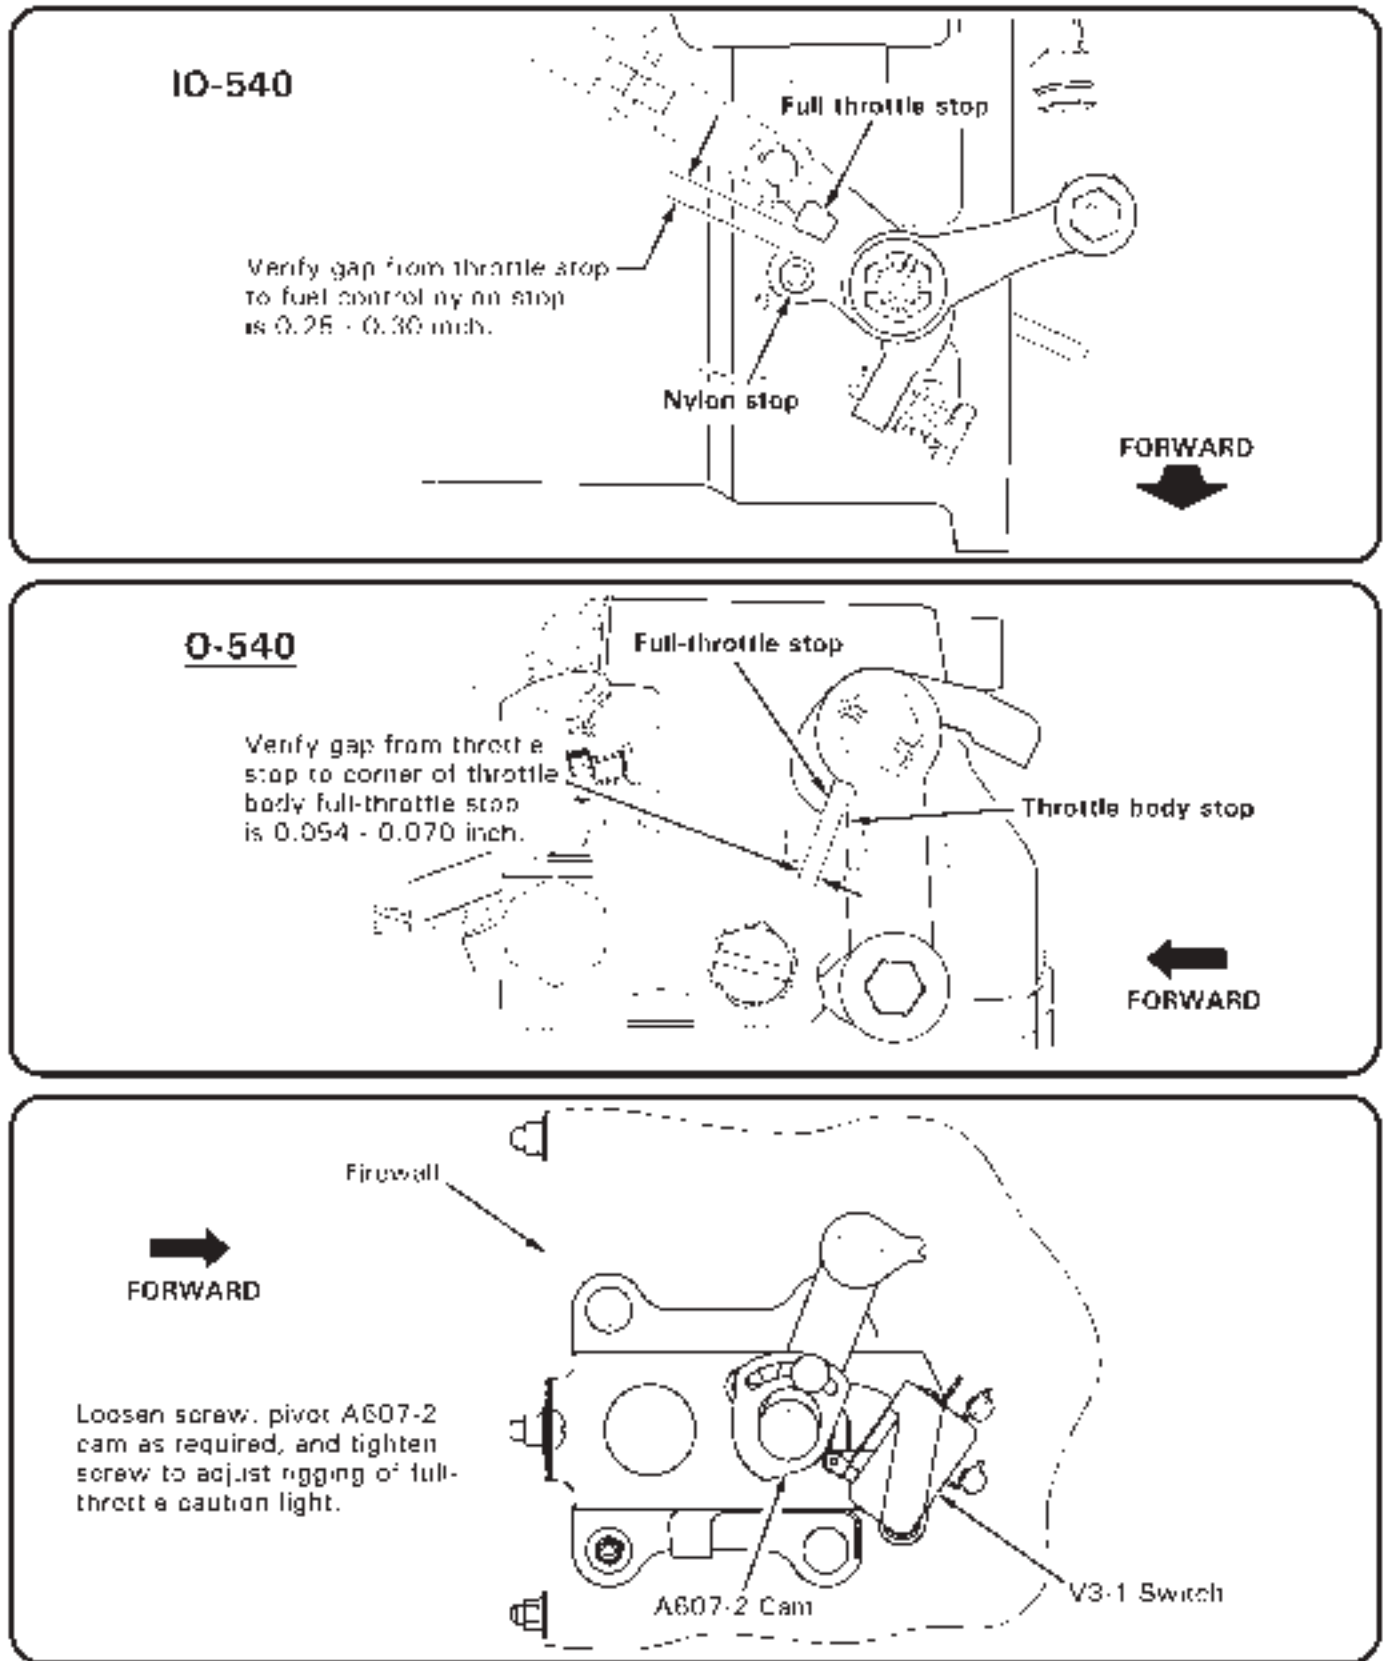

FIGURE 37-1 FULL THROTTLE CAUTION LIGHT RIGGING CHECK
- iii. A. **IO-540:** Refer to Figure 37-1. Verify gap from throttle stop to fuel control nylon stop is 0.25–0.30 inch. Adjust as required per step 2b.
B. **O-540:** Refer to Figure 37-1. Verify gap from throttle stop to corner of throttle body full-throttle stop is 0.054–0.070 inch. Adjust as required per step 2b.
- i. A. **IO-540:** Refer to Figure 37-1. Raise collective full up, rotate (throttle) twist grip as required, loosen screw, and pivot A607-2 slotted cam (in throttle linkage, forward of vertical firewall) so V3-1 switch activates when throttle stop is approximately 0.027 inch from fuel control nylon stop. Tighten screw.
B. **O-540:** Refer to Figure 37-1. Raise collective full up, rotate (throttle) twist grip as required, loosen screw, and pivot A607-2 slotted cam (in throttle linkage, forward of vertical firewall) so V3-1 switch activates when throttle stop is approximately 0.062 inch from corner of throttle body full-throttle stop. Tighten screw.